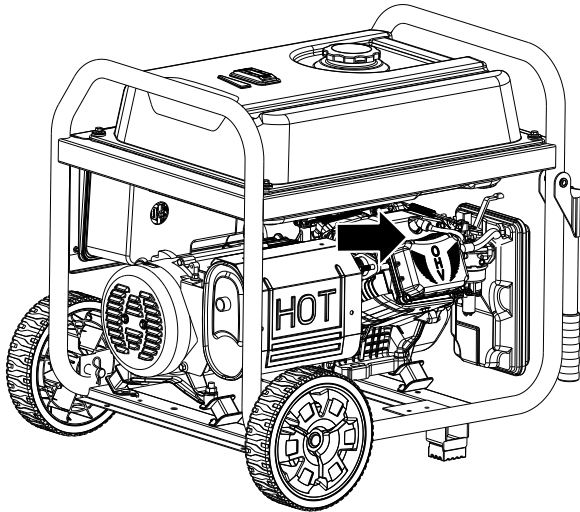

Figure 13: Slide off spark plug cover
3. Remove the spark plug boot by firmly pulling the plastic spark plug boot handle directly away from the engine (see Figure 13).